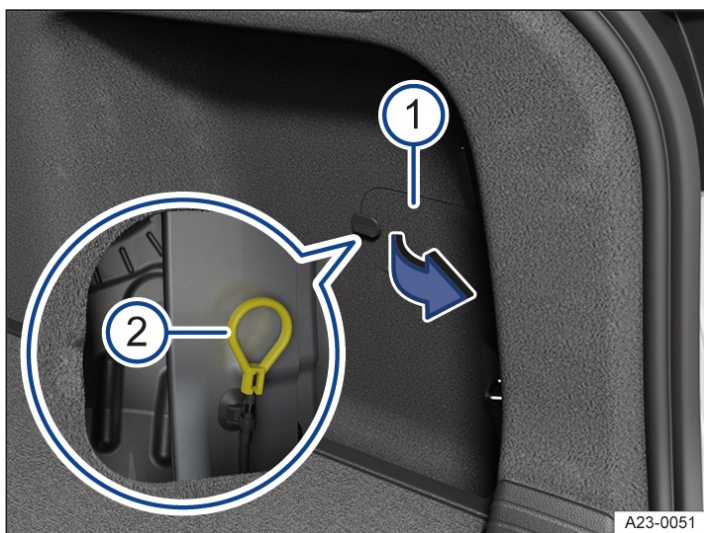

Fig. 2 In the lower right-hand side of the luggage compartment trim: manual release of the charging connector.
There is a flap with a catch on the bottom right-hand side of the luggage compartment → Fig. 2.
6. Pull the loop for manual release → Fig. 2 ②.